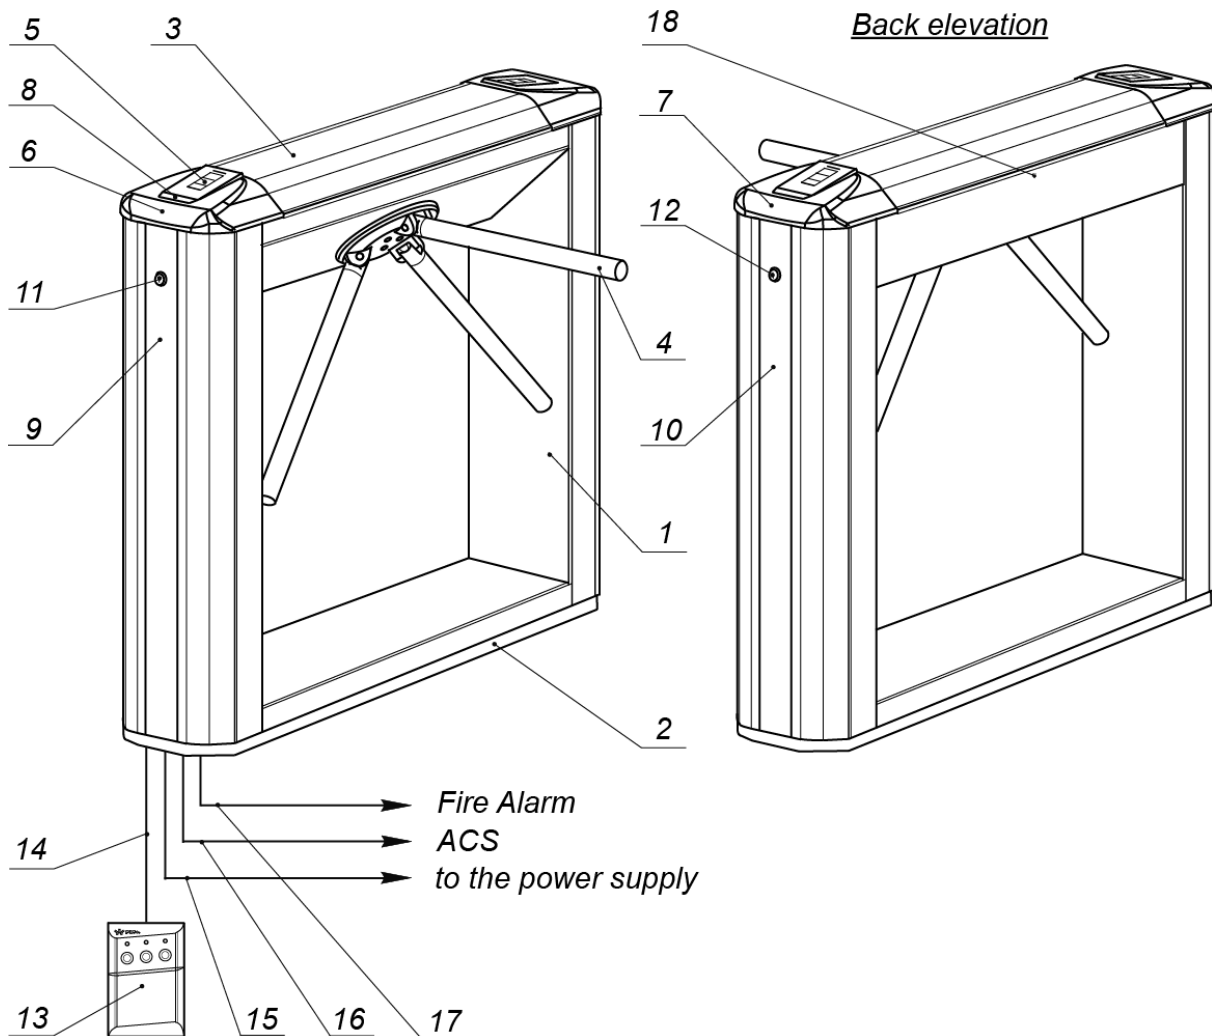

Fig. 2. TB-01.1A overall view
Design of the turnstile is shown in Fig. 2. Numbers of the items hereinafter refer to the item numbers as shown in Fig. 2 unless stated otherwise.
The turnstile consists of a turnstile housing with built-in electronics and two card readers, three barrier arms and an RC-panel (Ref. Fig. 2, items 1-3, 4 and 13).